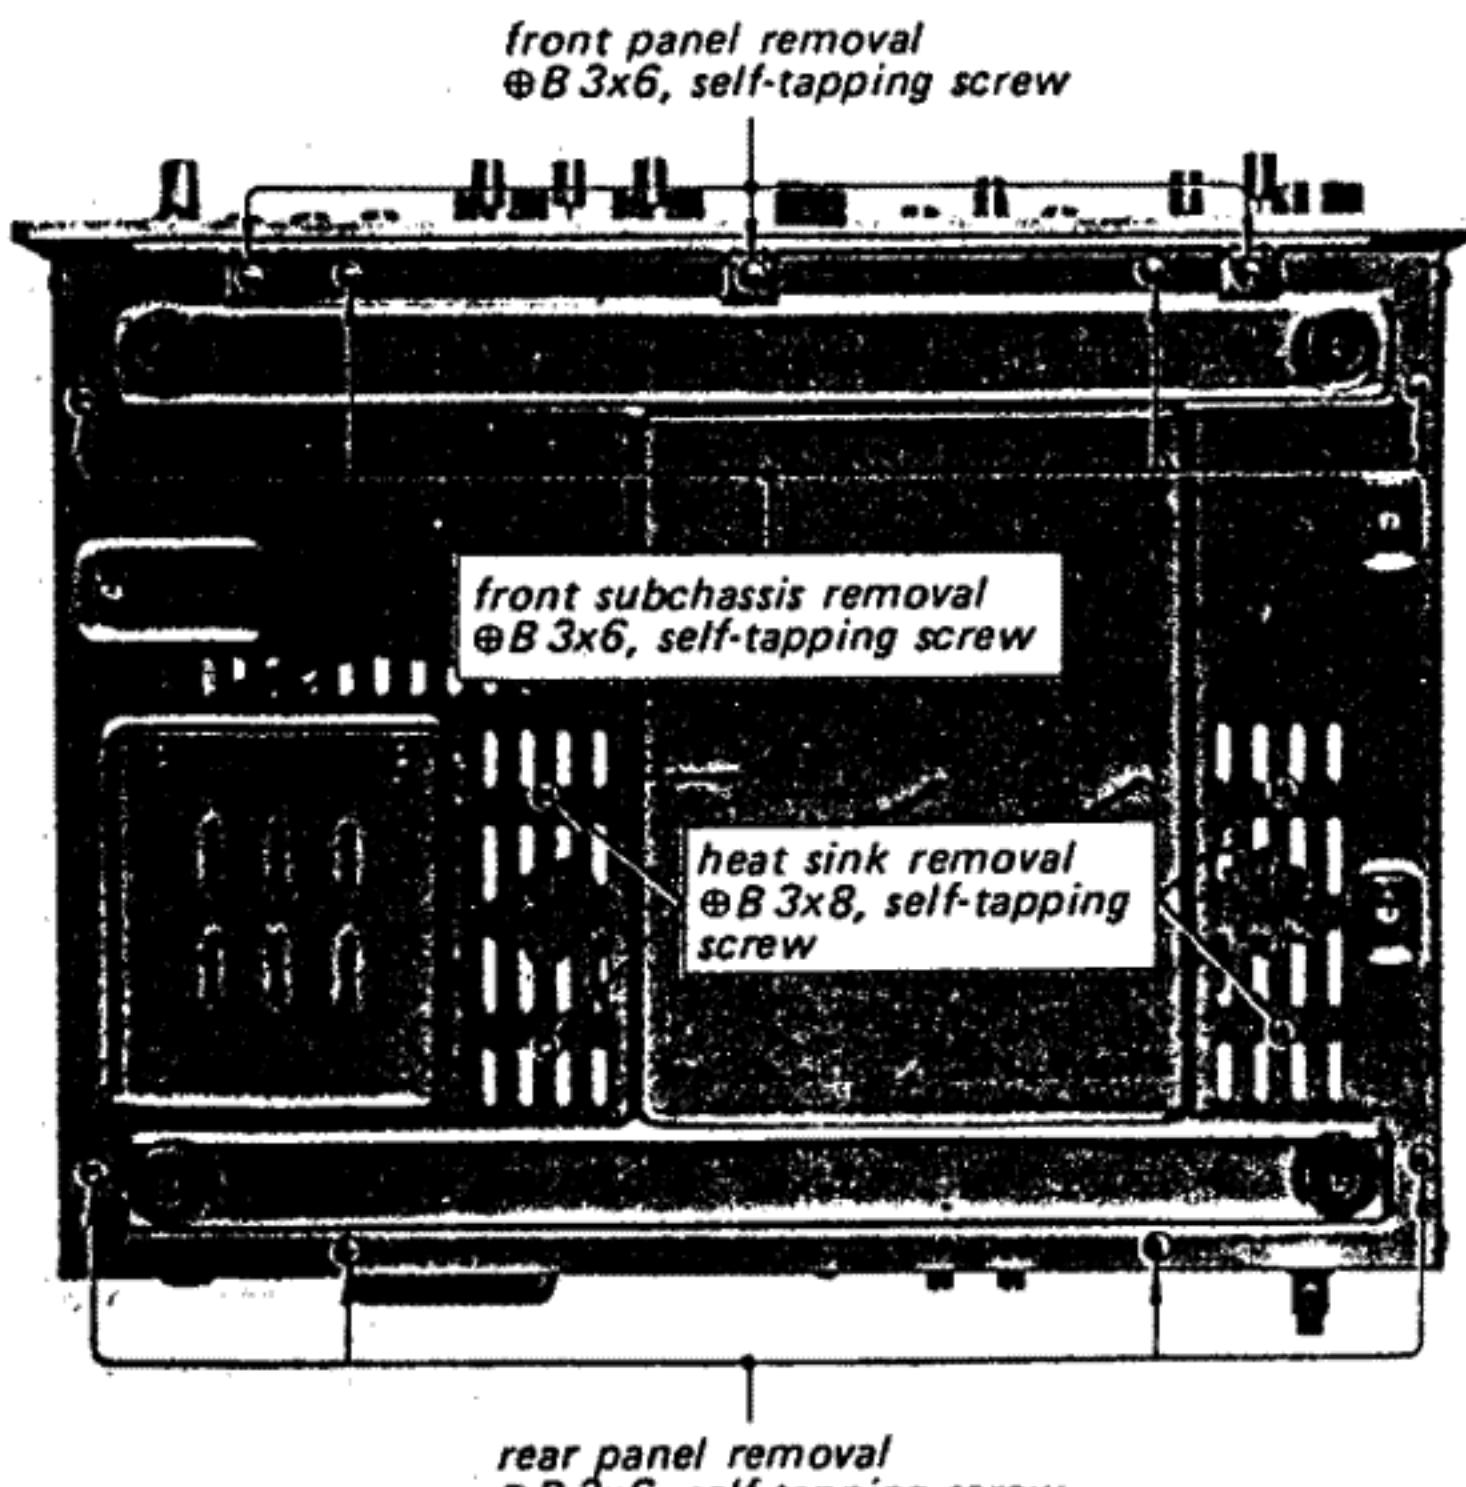
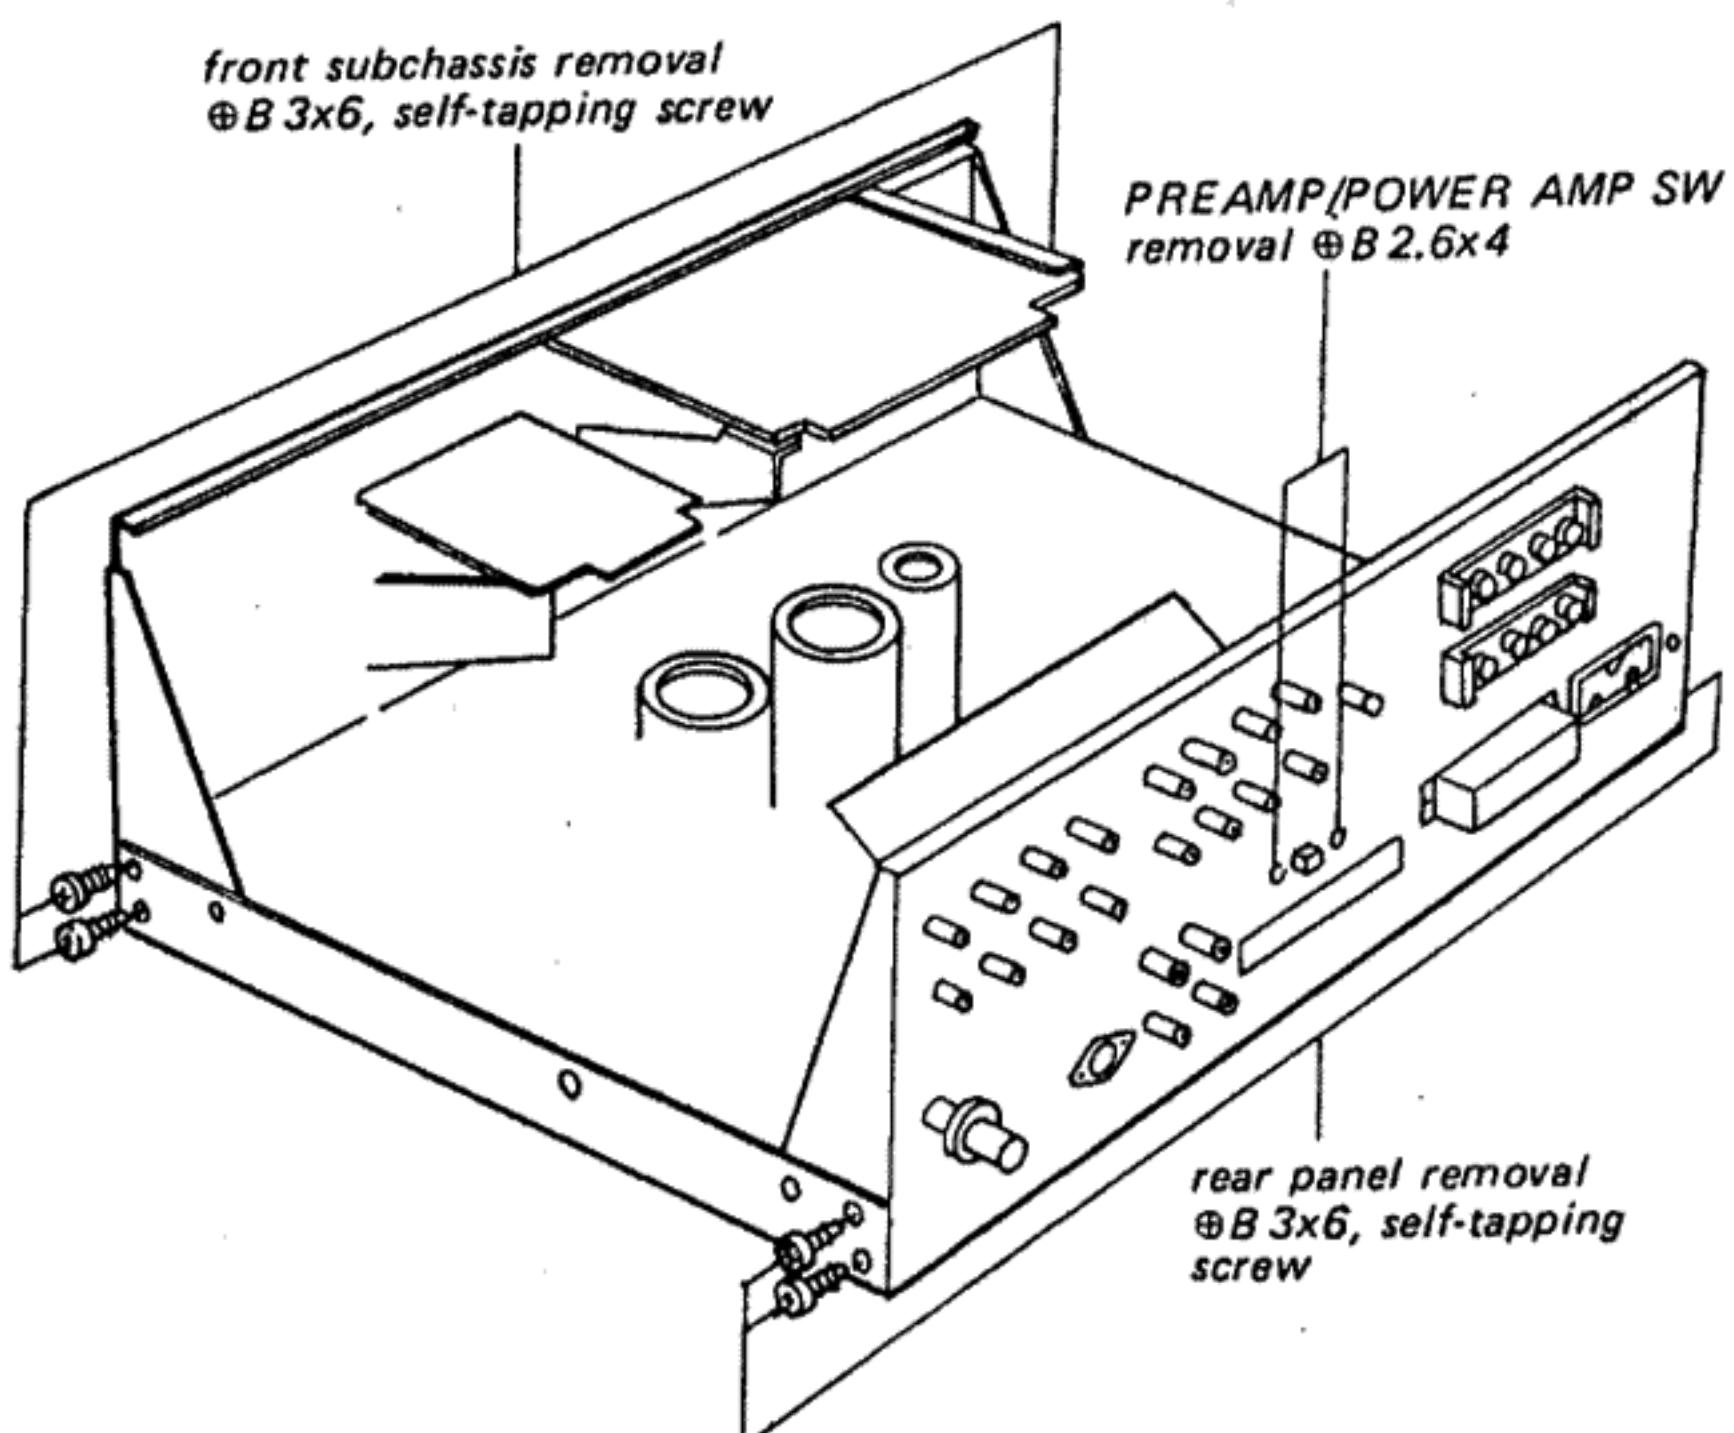

Fig. 2-3. Bottom view
Fig. 2-4. Front subchassis removal
4. Remove the three self-tapping screws (\oplus B 3x6) at the front bottom of the chassis as shown in Fig. 2-3. This frees the front panel.
2. Remove the two self-tapping screws ($\oplus B\ 3\times 6$) at each side of the chassis (see Fig. 2-4) and four self-tapping screws ($\oplus B\ 3\times 6$) at the front bottom of the chassis as shown in Fig. 2-3. This frees front subchassis.
2. Remove the two self-tapping screws ($\oplus B\ 3\times 6$) at each side of the chassis (see Fig. 2-4) and four self-tapping screws ($\oplus B\ 3\times 6$) at the rear bottom of the chassis as shown in Fig. 2-3. This frees rear panel.
2. Remove the two screws (\oplus B 2.6x4) securing the switch to the rear panel as shown in Fig. 2-4.
2. Remove the two self-tapping screws (\oplus B 3x8) securing the heat sink to the chassis at the bottom as shown in Fig. 2-3.